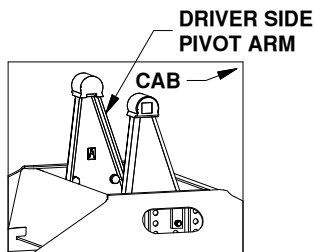
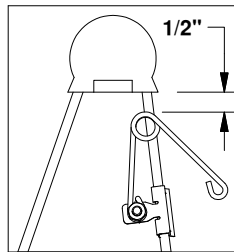

FIGURE E3:
FIGURE E4: Driver
2. Locate the flange which will be closest to the truck cab on the driver side pivot arm, see figure E3. The clip should be placed so that when the springs coil is in the line with the edge of the arm there will be 1/2" of clearance between the bottom of the rubber bumper and the top of the spring, see figure E4. Drive the clip securely onto the flange with a hammer.